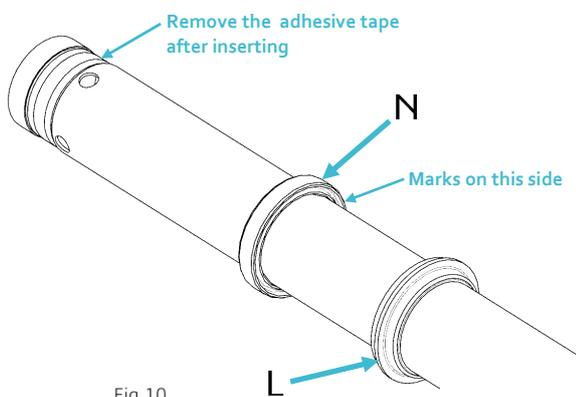

Fig.10
- Insert the dust scraper(L) and the oil seal(N) with the utmost care and respecting the assembly direction indicated in Fig.10.